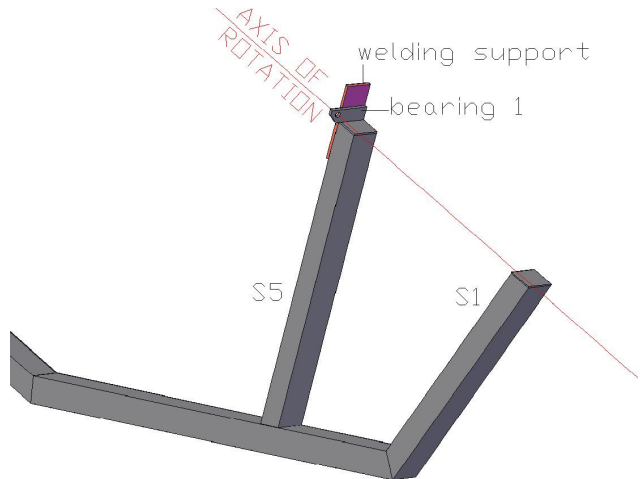

Fig. 19: Assembly of main bearings step1
**Step 1** Weld bearing 1 (S8) flush to the northern edge of S5 (use a flat iron as aligning support), the hole for the axis of rotation to the west. See Fig.19